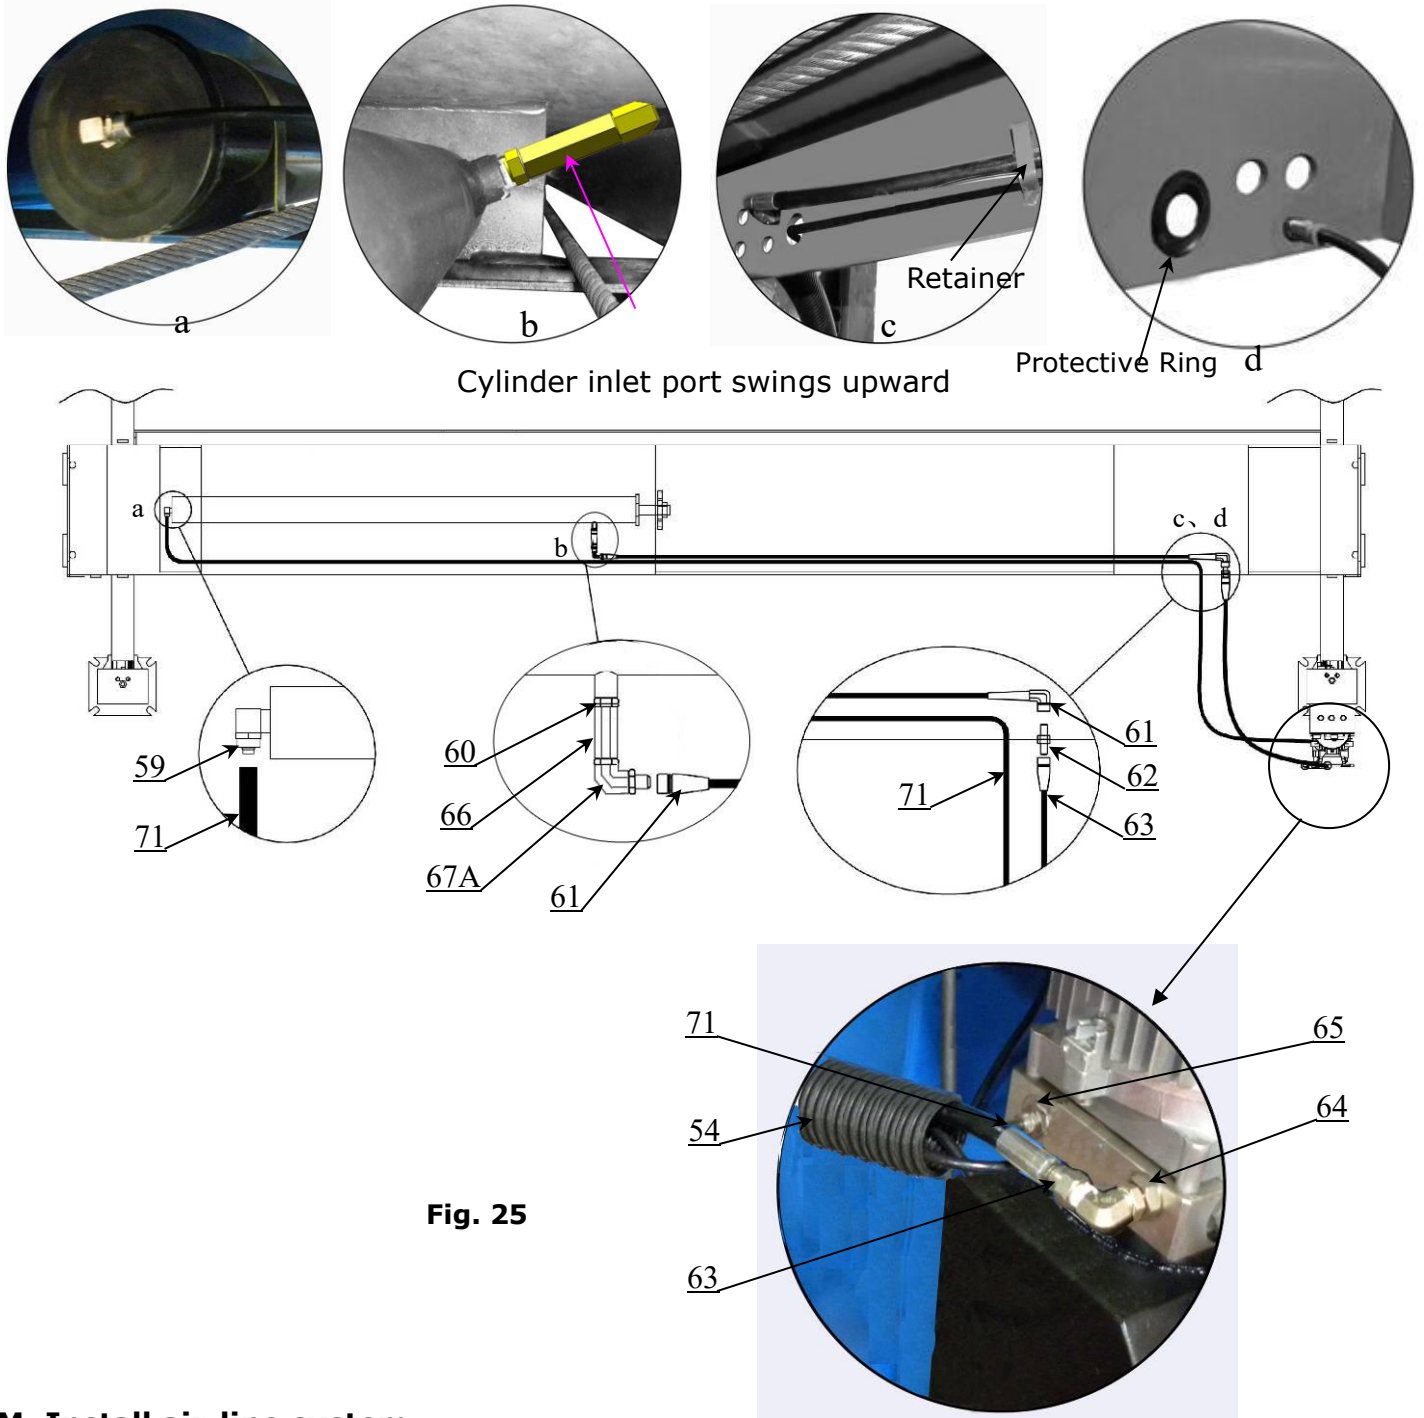

Fig. 25
L. Install hydraulic system (See Fig. 25)